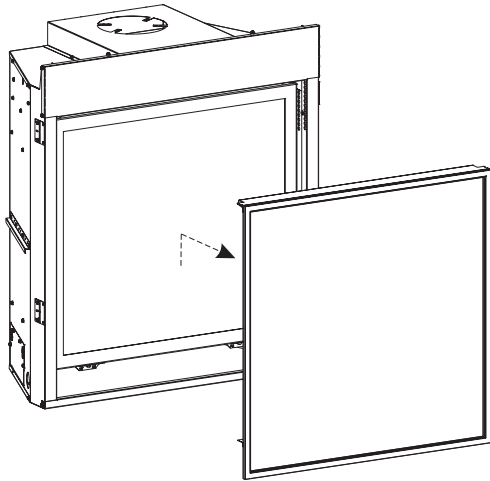

Figure 4
- 1a. **(New Model)** Make sure power and gas are turned off prior to any removal. Lift barrier screen assembly and pull away from the unit. **See Figure 4**
23a. Replace barrier screen removed in step 1a. **See Figure 4.**